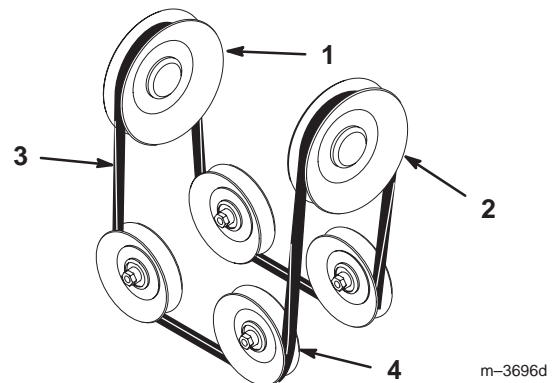

Figure 18
- C. Route the snowthrower belt around the engine PTO pulley (Fig. 18).